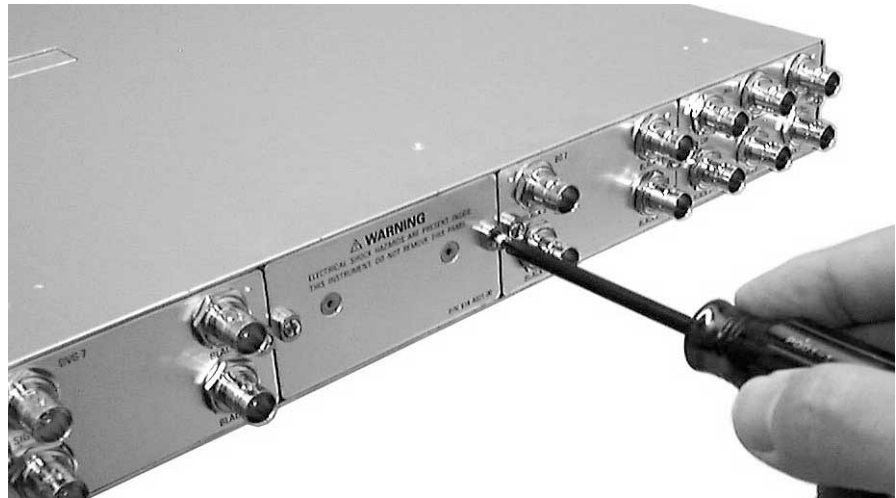

Figure 2: Removing the blank panel
3. Use a screwdriver with a #1 Phillips tip to loosen the two screws on the blank panel attached to the slot you want to use, and then pull it away. See Figure 2.